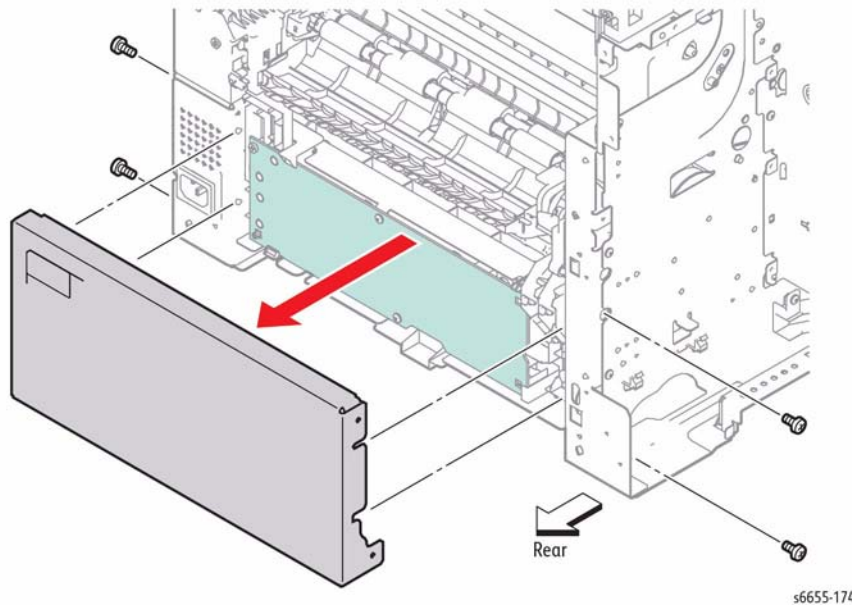

Figure 1 Remove the S3 Rear Frame
7. Refer to Figure 1 to locate and remove the four screws (silver, 6 mm) that attach the S3 Rear Frame to the printer and remove the frame.